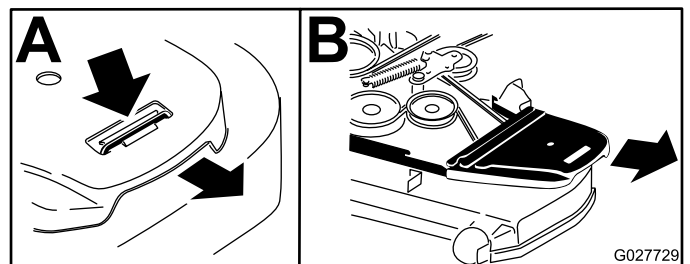

Figure 60
6. Remove the belt covers and the bolts attached to them (Figure 60).